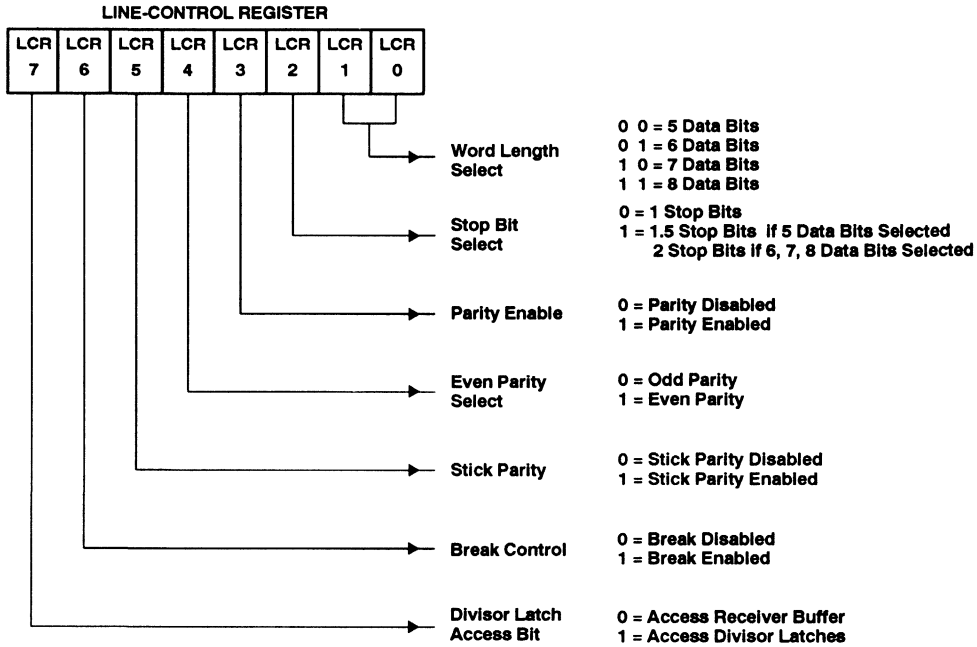

Figure 1. Line Control Register Contents
The format of the data character is controlled by the line-control register. The LCR may be read. Its contents are described below and shown in Figure 1.
The number of bits in each serial character is programmed as shown in Figure 1.
LCR(2) specifies the number of stop bits in each transmitted character as shown in Figure 1. The receiver always checks for one stop bit.